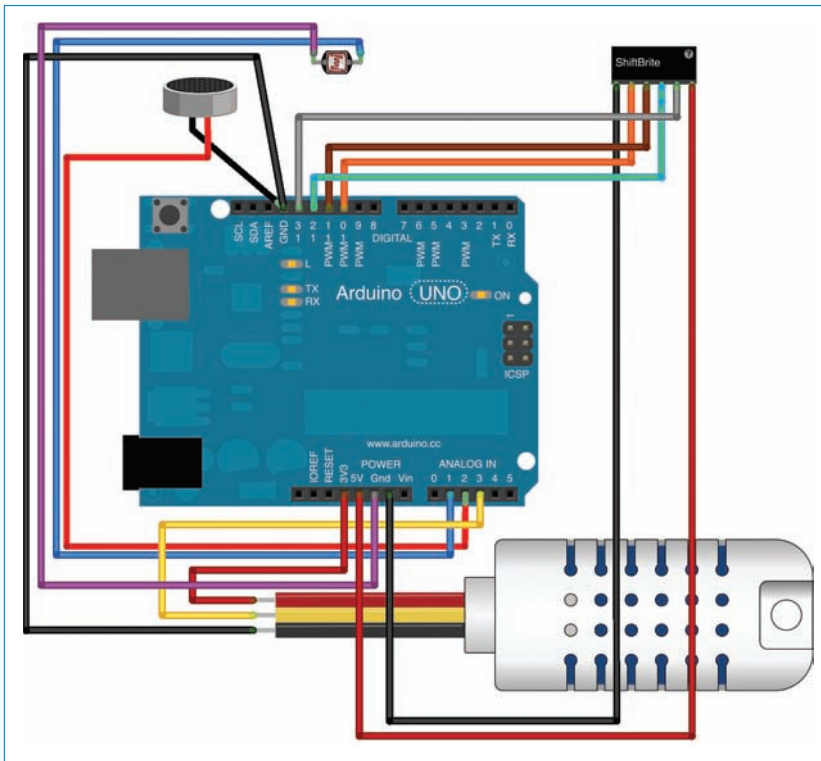

FIGURE 6.20 That's a lot of wires!
- 7. Wire up the sensors**—See Figure 6.20. The light sensor plugs into analog port 1 and GND. The temperature sensor plugs into 3V3 and analog port 3, and shares a ground with the sound sensor, which plugs into analog port 2. It's not too tricky!